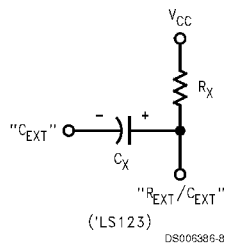

FIGURE 1.
- When an electrolytic capacitor is used for  $C_X$  a switching diode is often required for standard TTL one-shots to prevent high inverse leakage current. This switching diode is not needed for the 'LS123 one-shot and should not be used. In general the use of the switching diode is not recommended with retriggerable operation. Furthermore, if a polarized timing capacitor is used on the 'LS123 the negative terminal of the capacitor should be connected to the "CEXT" pin of the device (Figure 1).